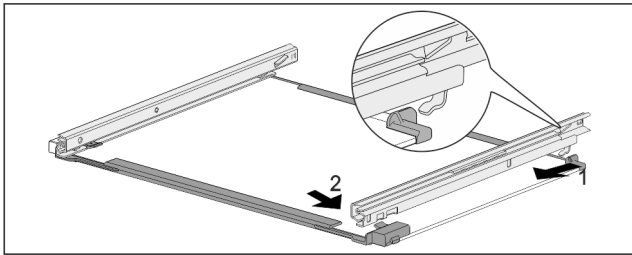

Fig. 228 Glass shelf with rails
- ▶ Hook in rail at the back. Fig. 228 (1)
- ▶ Hook in rail at the front. Fig. 228 (2)